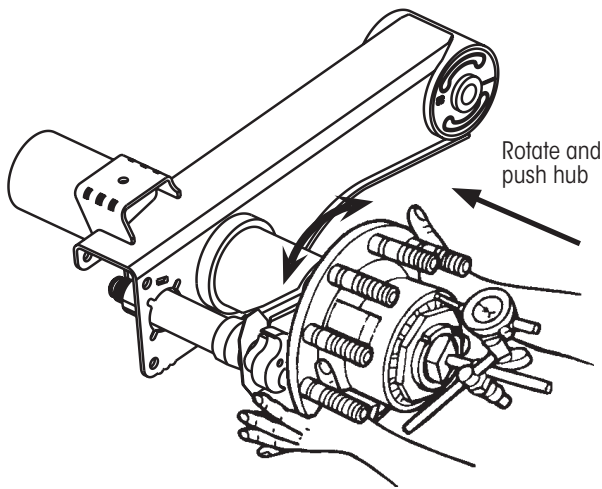

Figure 5: Checking inward end-play
**NOTE:** A reasonable assessment can be performed without removing tires and rims. However, this procedure is best performed with hub only as shown in Figure 5.
8. Grasp hub flange, as shown in Figure 5, and push the hub inward while rotating hub slightly in both directions (15 - 30° between two holes) until the dial indicator reading remains constant. Record reading.